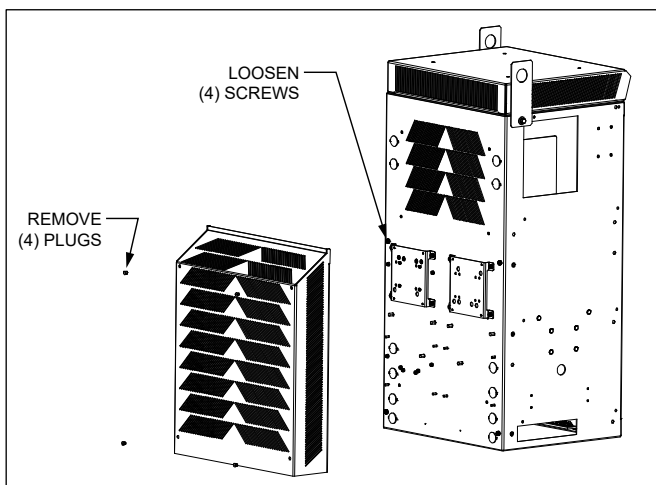

Figure 20 Rear Shroud
1. To remove the rear shroud, first remove the four plugs from the mounting holes on the back (Figure 20). Save these plugs. Insert a long Philips screwdriver (6" shaft) through these holes and loosen the four mounting screws on the CUBE back panel. Do not remove these screws from the CUBE. The rear shroud has four mounting keyhole slots that rest on the mounting screws. Once the screws are loosened, lift the shroud off the CUBE. Set the shroud aside.